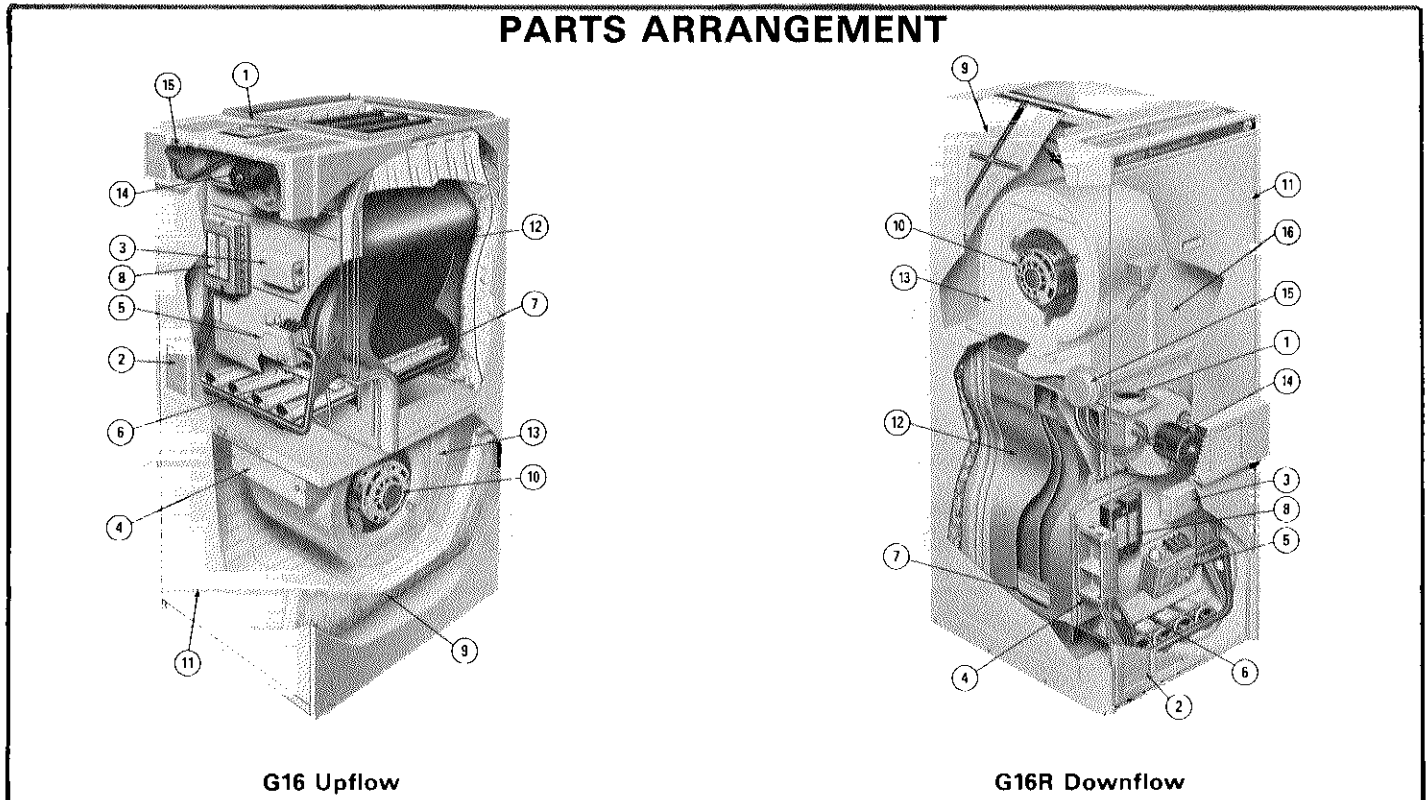

FIGURE 1
- 3 - Remove burner and blower access panels. See figure 1.